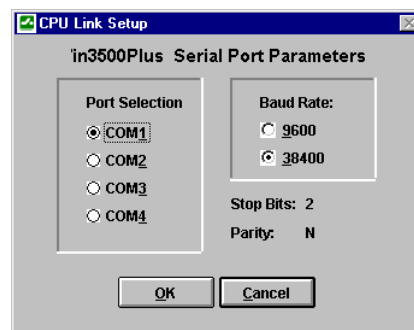

Figure 4 CPU Link Setup Window
Open the **System** menu and select **Communications** to display the CPU LINK SETUP window (Figure 4).
1. Open the **System** menu and select **Communications**. When the CPU LINK SETUP window (Figure 4 on page 19) is displayed, note the current port selection (for use in step 5 below), select the serial port on the computer that will be used to temporarily connect to the remote modem, and then click the **OK** button.
5. Open the **System** menu and select **Communications**. When the CPU LINK SETUP window (Figure 4 on page 19) is displayed, return the port selection to its original state (before the change in Step 1 was made), and then click the **OK** button.